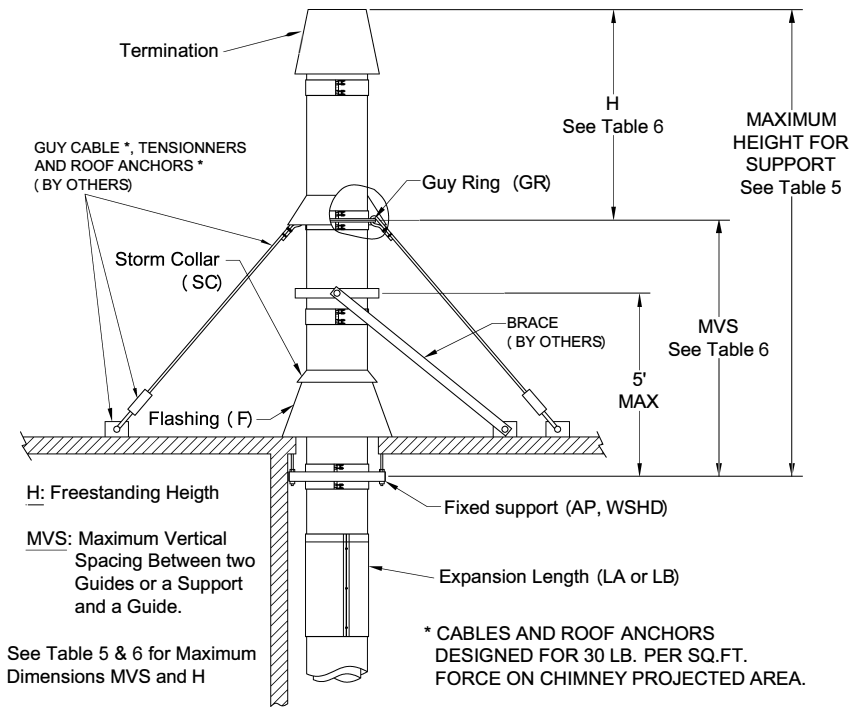

Figure 65 - Height with rigid bracing or guying option
1. Proper guying and bracing is essential for part of the Chimney that extends above the roof or parapet wall. The chimney at this point is subject to wind conditions and needs special attention for proper stabilization. See Figure 65.
2. If the chimney above the roof does not exceed dimension H in Table 6, no special guying or bracing is required. However, to protect the flashing from lateral movement, a guide must be installed at the roof level. See Figure 65.